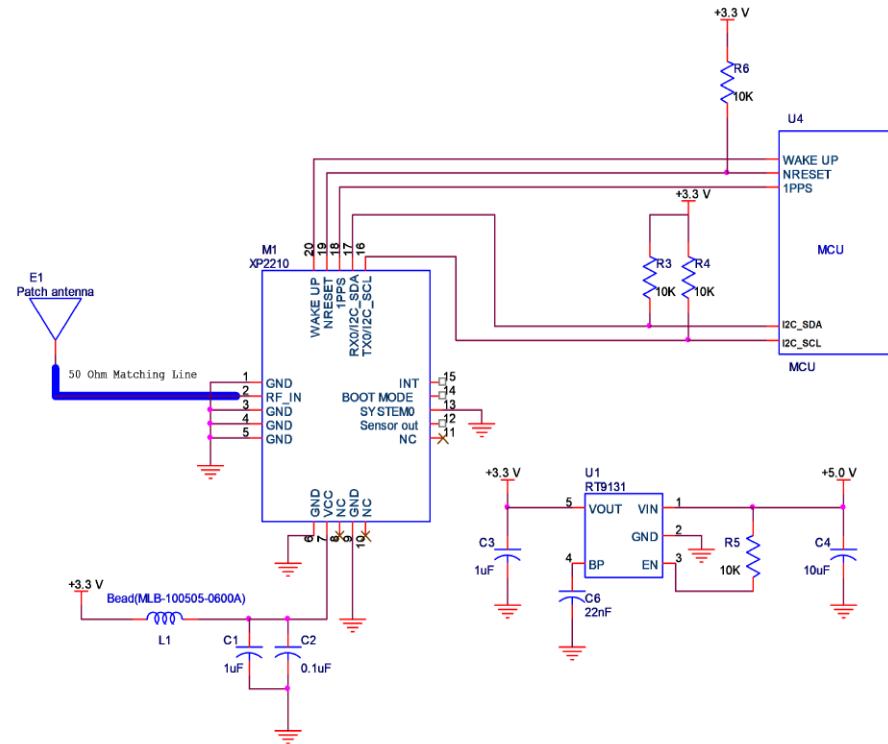

Figure 4-2: Reference Schematic Design for I2C
- I2C – this interface can support NMEA output; refer to Figure 4-2.